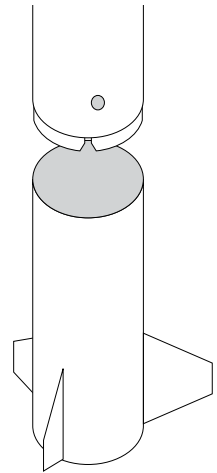

Figure 18
8. Stack the tubes by inserting the splice ring end of BT2 into the stop ring end of BT1 (Figure 18). Tape the tubes together with transparent tape.